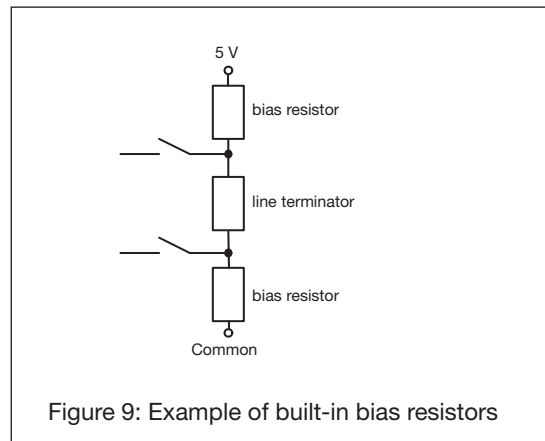

Figure 9: Example of built-in bias resistors
- RS-232 to RS-485 converter (see Figure 9)